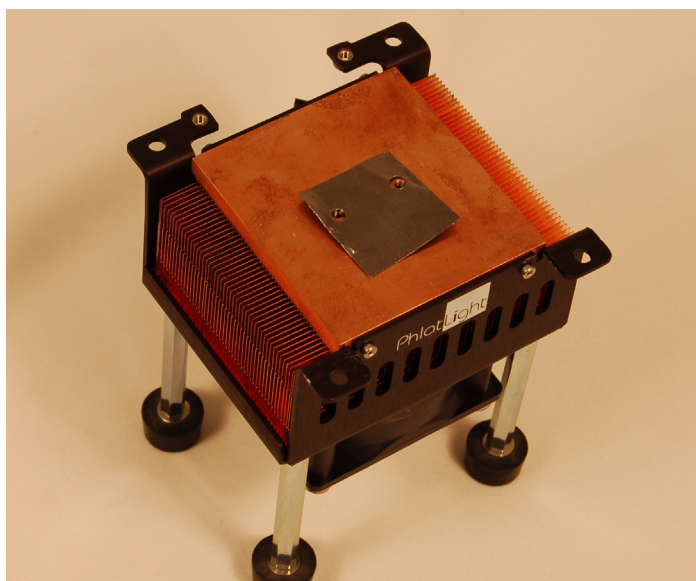

Figure 11: Thermal pad on heat sink
2. Place the thermal pad on the heat sink with pre-drilled holes matching the hole pattern on the core board of the device (Figure 11).